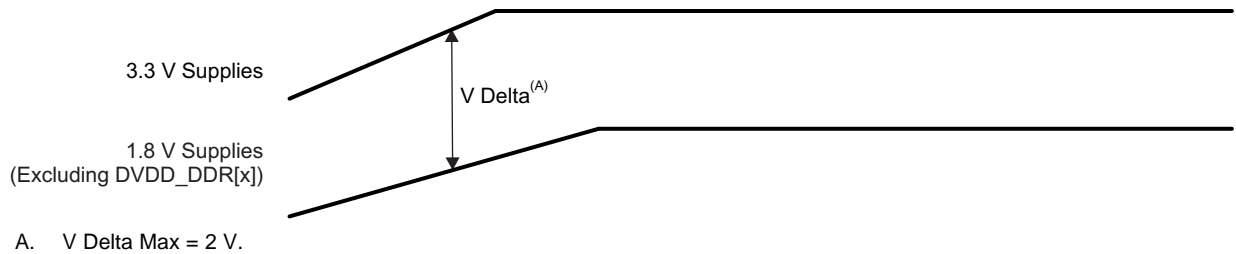

Figure 7-2. 3.3 V Supplies Rising Before 1.8 V Supplies Delta
(1) The 3.3 V supplies **must** never be more than 2 V above the 1.8 V supplies (see Figure 7-2).
(2) The 1.8 V supplies **must** be  $\geq$  1.5-/1.8-V DVDD\_DDR[x] and CVDD, CVDD\_x variable supplies.
(1) The 1.8 V supplies **must** be  $\geq$  1.5-/1.8-V DVDD\_DDR[x] and CVDD, CVDD\_x variable supplies.
(2) The 3.3 V supplies **must** never be more than 2 V above the 1.8 V supplies (see Figure 7-2).